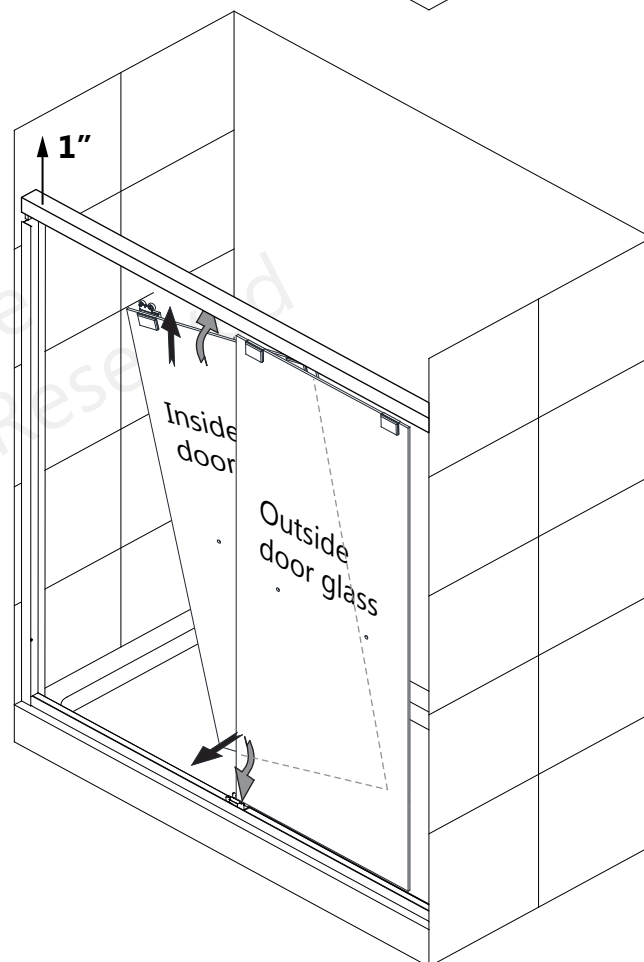

Fig 14
14. Next, install the inner door glass in the same manner. Move the installed "outside" door aside, lift the **Upper Guide Rail (#02)**, and install the inner door glass into the **Upper Guide Rail (#02)** and into the **Guide Block (#05)**. (Fig 14)